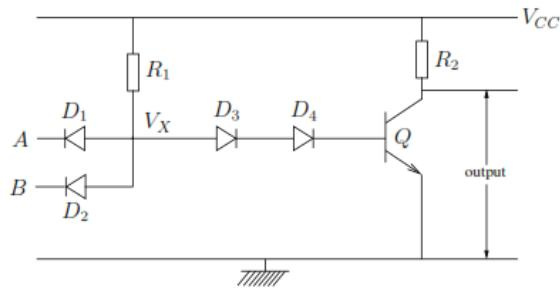
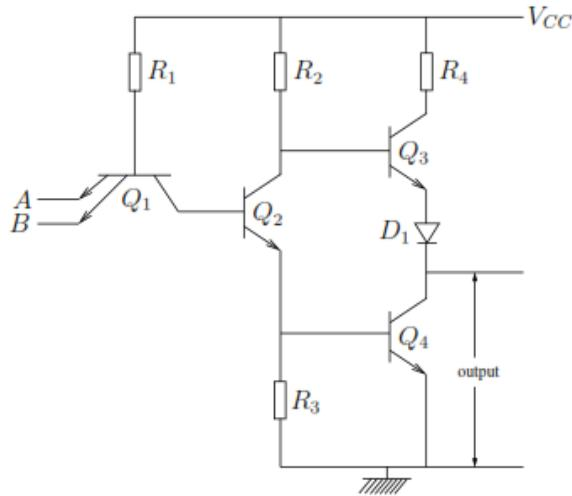

Figure 1.6: DTL NAND gate
Figure 1.7: TTL NAND gate
Figure 1.6 shows a Diode-Transistor Logic (DTL) NAND gate. Note that although this type of NAND gate is no longer manufactured, the understanding of how it works will assist in understanding the operation of TTL gates that we shall come across later.
Fig. 1.6 shows a TTL NAND gate. Q_1 is a multi-emitter transistor. The transistor is equivalent to the circuit shown in Fig. 1.7. (Note that the gate shown in Figure 1.7 is a 2-input NAND gate. A 3-input NAND gate would have a multi-emitter transistor with 3 emitters etc.)
The output stage of the NAND gate described above is called a totem-pole output. It is illustrated in Fig. 1.15. All TTL gates have this type of output stage. Note that the NAND gate circuit shown in Fig. 1.6 would still operate as a NAND gate even if D1 and Q3 were removed (and R4 connected directly to Q4). However, removing D1 and Q4 is not desirable as R4 is usually a small resistor (about 100) so a large current would flow through Q4 when it is in saturation mode. When Q3 is in the circuit, and Q4 is in saturation mode, Q3 is in cut-off mode hence there will be no current through R4, and this keeps the power dissipation of the circuit low. Note also that the transistors Q3 and Q4 operate such that when Q4 is saturated, Q3 is cut-off, and when Q4 is cut-off, Q3 is saturated. 17 Figure 1.15: Totem pole output Totem pole outputs should not be connected directly together (connecting two outputs directly together is known as a wired-AND operation). Consider the case shown in Fig. 1.16 where two totem-pole outputs are connected together directly. Figure 1.16: Wired-AND connection No particular problems arise if both inputs are HIGH or are both LOW. A problem arises if one input is HIGH and the other one LOW. In the case shown in Fig. 1.16, it is assumed that the output of gate A is HIGH while that of gate B is LOW. A large current flows in the direction shown by the arrow. This current is usually
- a. 74XX e.g. 7400, 7432 e.t.c.-This is the standard TTL. In this case (Fig. 1.6, R₁ = 4K;R₂ = 1K6;R₃ = 1K and R₄ = 130.